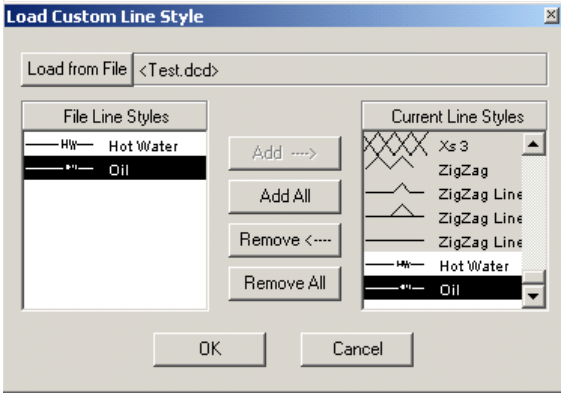

Figure 4. Dialog for loading line styles from file.
1. Open **Load Custom Line Style** dialog. (Figure 4)